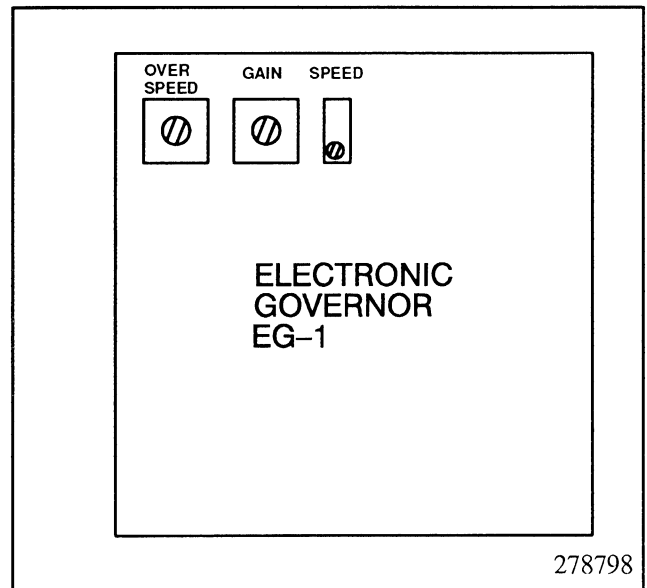

Figure 3-25. Governor Adjustments
5. Adjust the electronic governor **speed** pot. to obtain a full load engine speed of 60 Hz. (1800 rpm) on 60 Hz. models and 50 Hz. (1500 rpm) on 50 Hz. models. See Figure 3-25. Turn clockwise to increase frequency and counter-clockwise to decrease frequency.